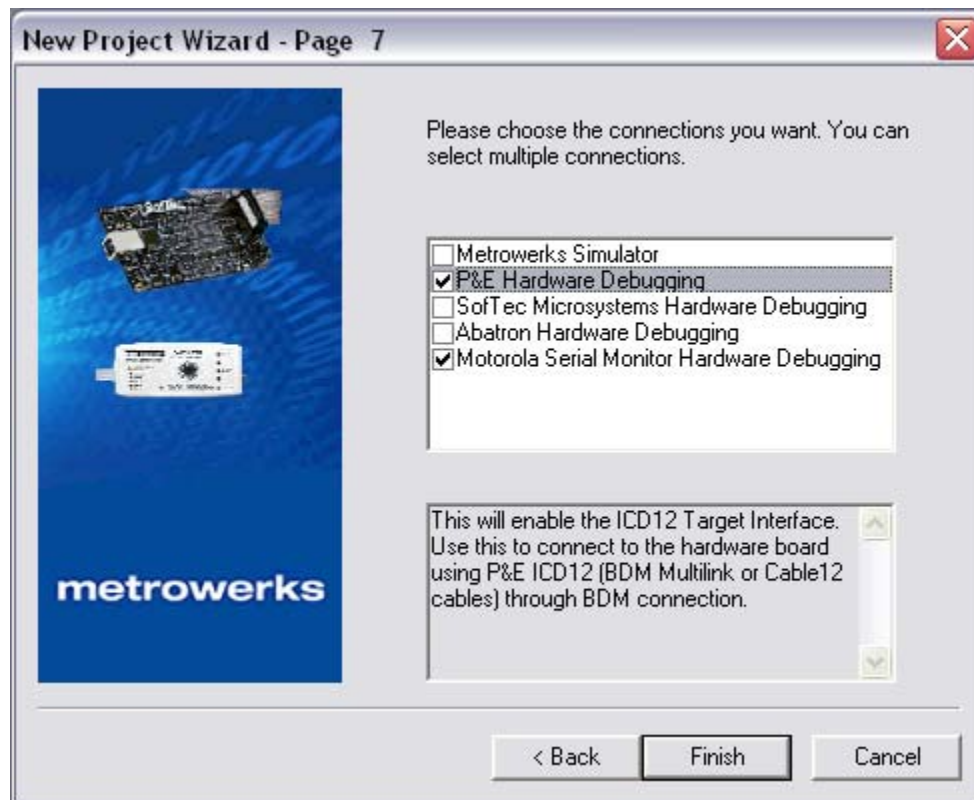

Figure 11. New Project Wizard — Page 7
- q. Click “Next” — Page 7 of the new project wizard will appear (see Figure 11)